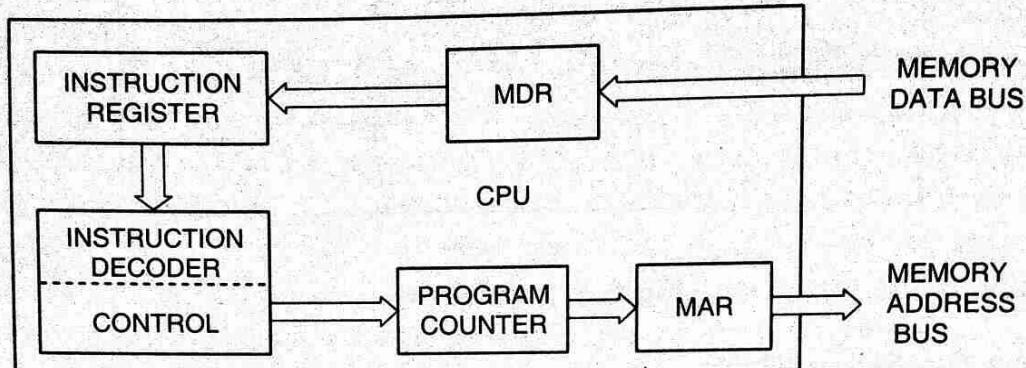

Fig. 3.7 Flow of Instruction word (opcode)
memory address register, MAR or simply address register, AR; (address buffer in Intel 8085). The content of MAR is transferred to the memory through the address bus. By sending certain control signals to the memory the microprocessor also indicates that it wants to read the content of the memory. The decoder circuitry in the memory is activated and the memory understands what is to be done. Then the memory sends opcode to the microprocessor through the data bus. The opcode first comes in memory data register (MDR) or simply data register (DR) as shown in Fig. 3.7. In case of Intel